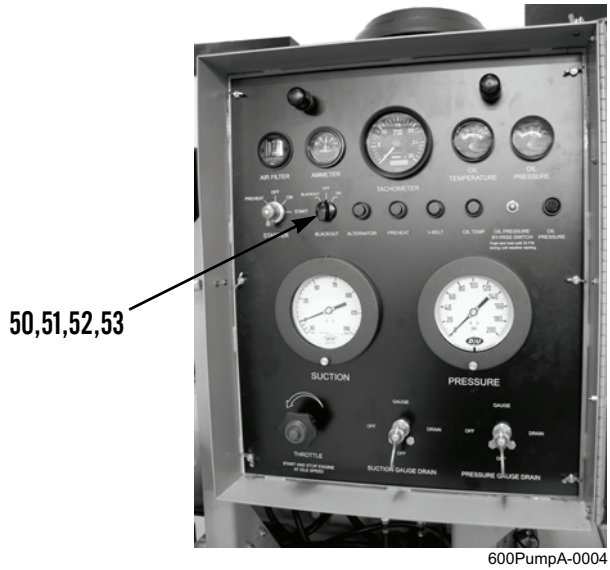

Figure 17. Blackout Light Switch.
1. Loosen setscrew (Figure 17, Item 51) in knob (Figure 17, Item 52).
2. Remove knob (Figure 17, Item 52) and nut (Figure 17, Item 53) from blackout light switch (Figure 17, Item 50).
4. Install nut (Figure 17, Item 53) and knob (Figure 17, Item 52) on blackout light switch (Figure 17, Item 50).
5. Tighten setscrew (Figure 17, Item 51) in knob (Figure 17, Item 52).